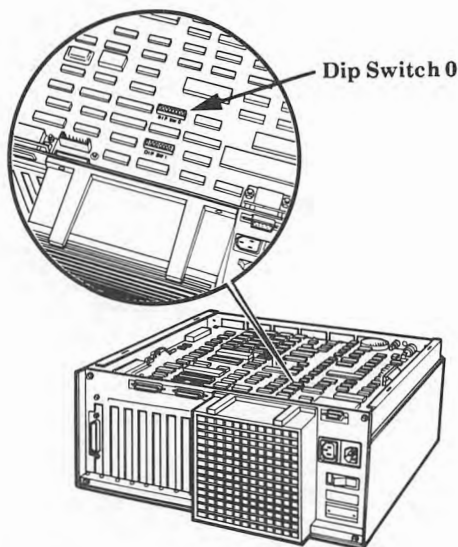

Figure 2-6. Location of DIP Switch 0.
7. Locate DIP Switch 0 on the processor board. See Fig. 2-6.